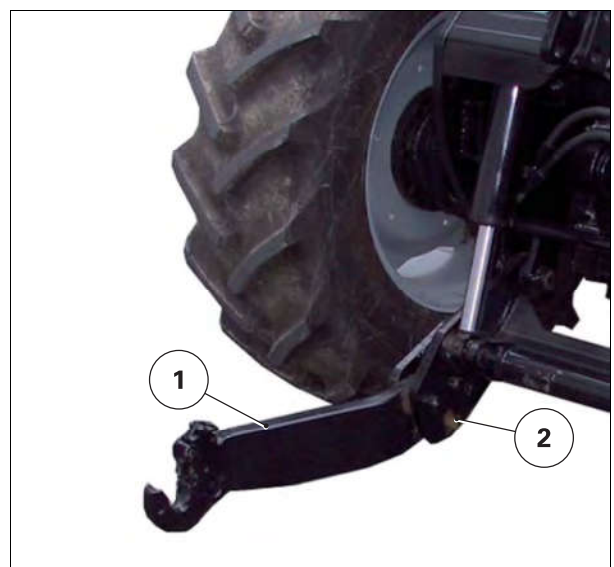
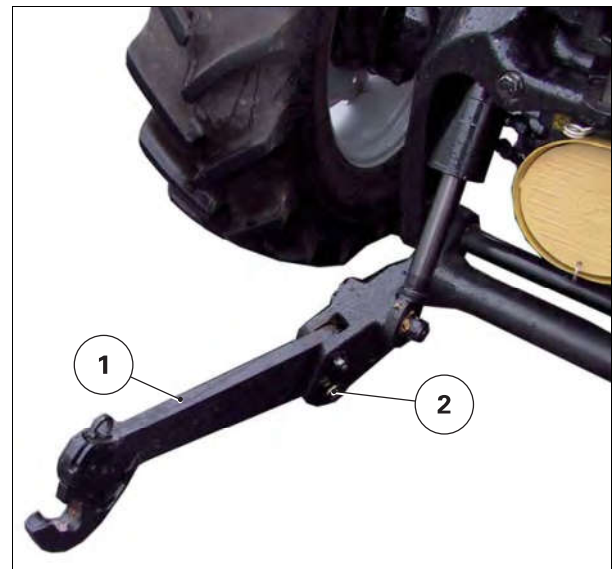

Fig. 6.
Fig. 7.
To use the front linkage, take out the pin (2) to unfold the linkage arms (1) *fig. 6 fig. 7*, then reinsert the pin and the safety pin.